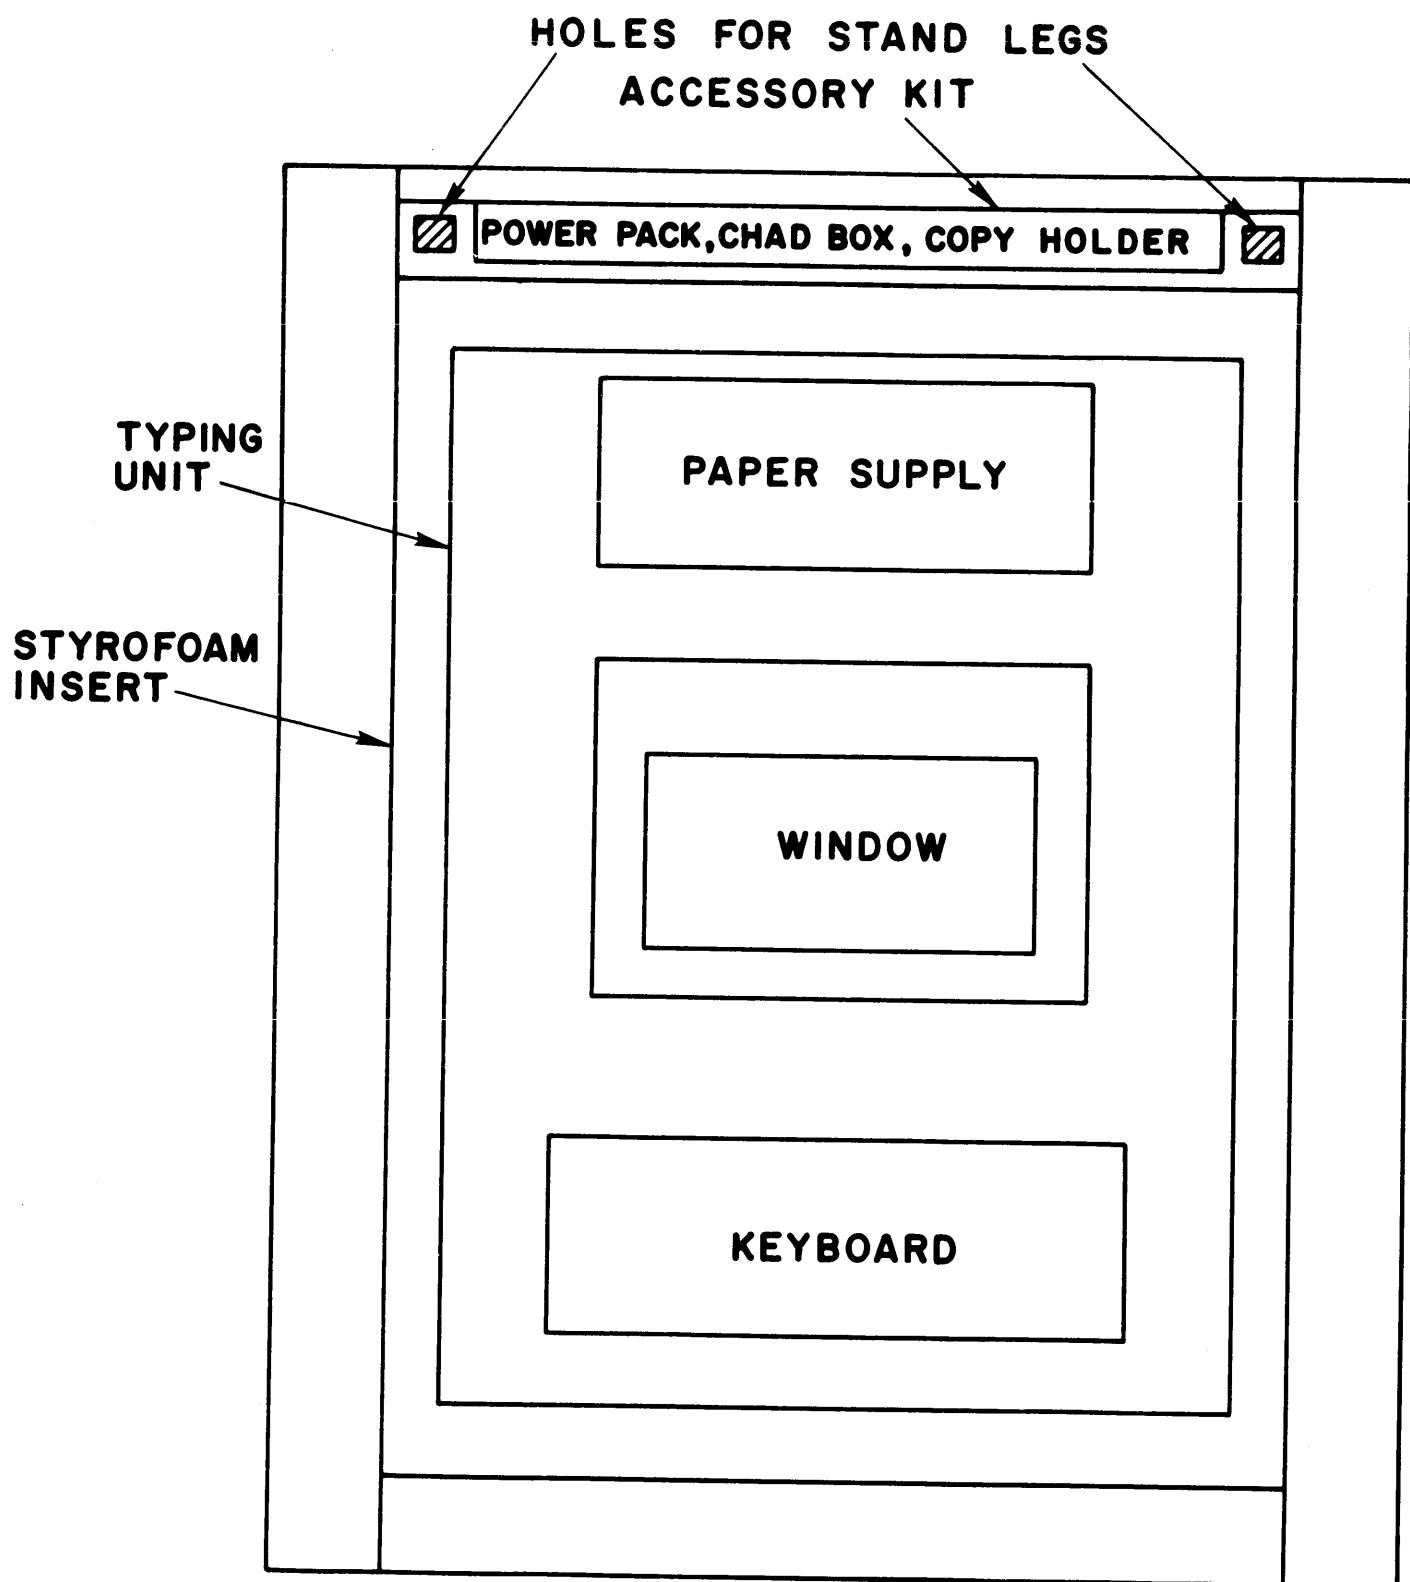

Figure 2-3. Location of Teletype Typing Unit in Carton
- d) Remove cardboard insets, accessory kit, and Typing Unit. (See Figure 2-3.) Typing Unit is mounted on a paste board shipping pallet by seven screws.